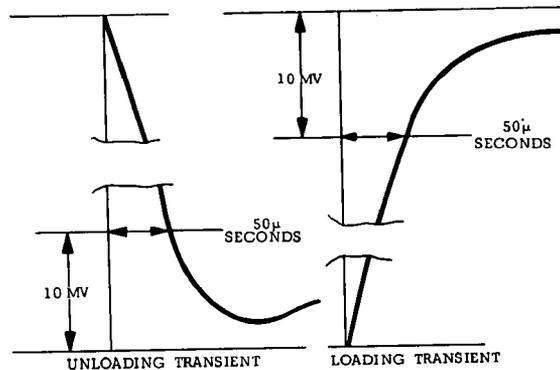

Figure 5-8. Transient Response, Waveforms
f. Adjust 25K potentiometer until a stable display is obtained on oscilloscope. Waveform should be within the tolerances shown in Figure 5-8, (output should return to within 10 mv of original value in less than 50 microseconds).